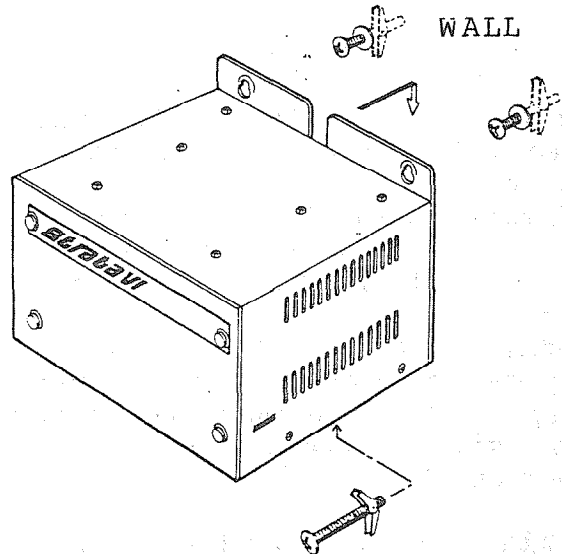

FIGURE 2
the top of the MKSU, as shown in Figure 2.
04.22 Secure the MKSU, as shown in Figures 2 and 3, with fasteners through the upper two holes and the single lower hole in the backplate. The fasteners should be either 1/4-inch molly screws, toggle bolts, or lag screws, depending upon the type of wall surface being used.